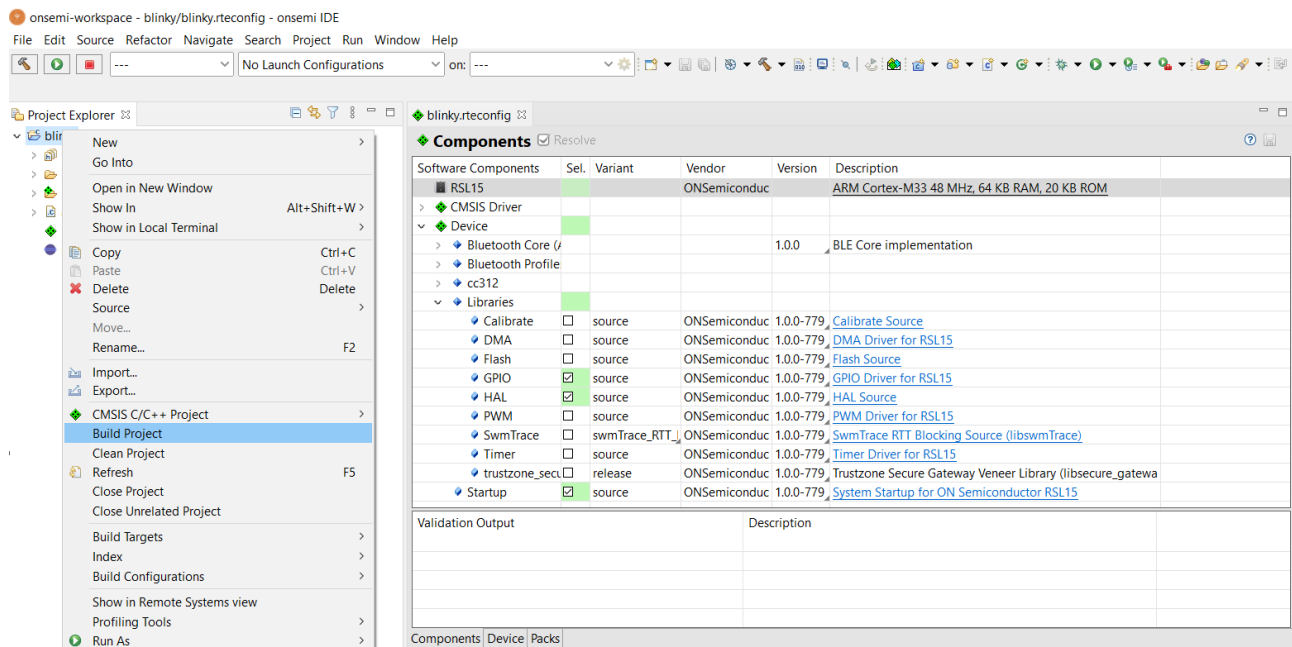

Figure 9. Beginning to Build a Project in the onsemi IDE
1. In the Project Explorer view, right click on the folder for *blinky* and click **Build Project**. Alternatively, you can select the project and click the **Build Project icon**, which looks like a hammer, as shown in the "Beginning to Build a Project in the onsemi IDE" figure (Figure 9).